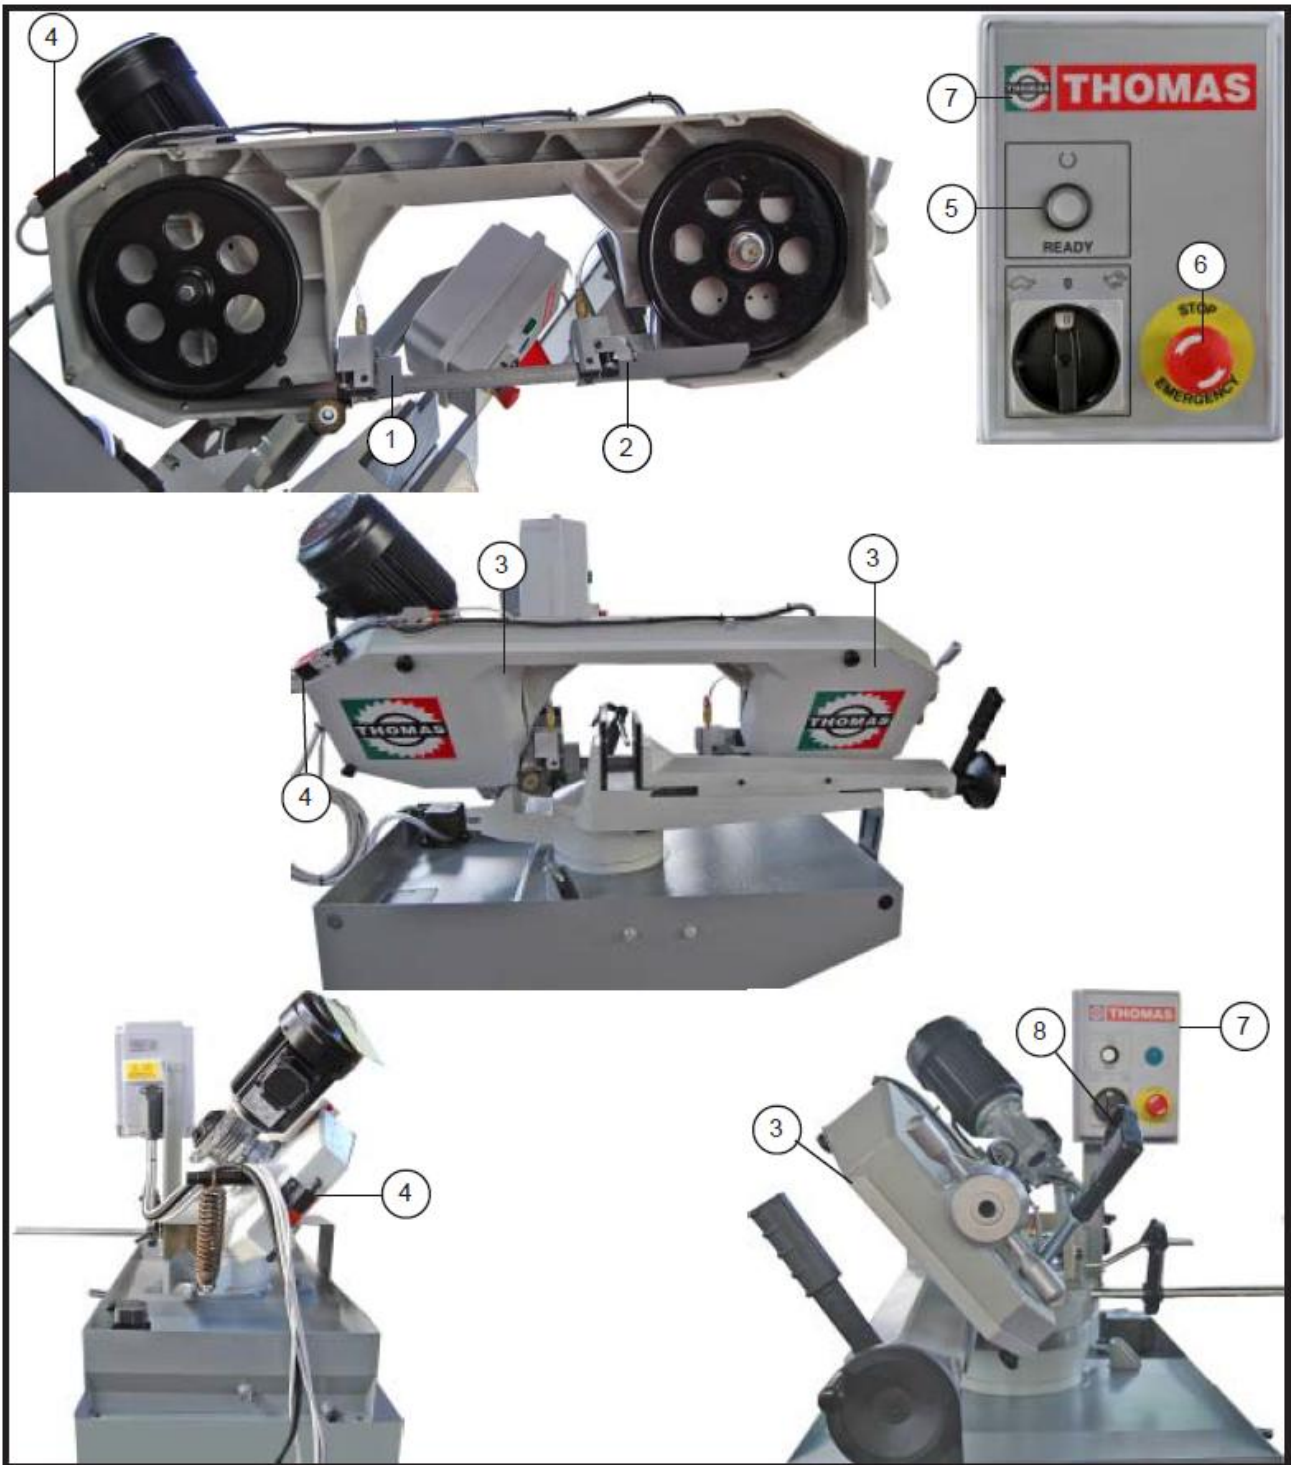

Fig. 1-7
- a) N. 1 Stationary Guard (1 fig. 1-7) on the fixed blade-guide block. The guard avoids the contact with the blade as it enters the blade-guide; also, it prevents access to the area in which the brush is located. The guard is made of steel plate press-bended and welded and it is mounted with screws to the blade-guide block. The resistance of the guard is suitable to the vibrations generated the normal use of the machine and maintenance works.
- c) N. 1 Interlocked Mobile Guard (3 fig. 1-7) sawframe cover. The guard prevents the access to the blade and both flywheels. The Cover is electrically connected to a interlock switch (4 fig. 1-7), which stops the machine if the cover is open. The closure of the cover does not start the machine automatically, but it is necessary to press the button <READY> (5 fig. 1-7) on the control panel. The cover is made of steel plate which is assembled to the sawframe by means of two hinges; the closure is provided by screw plastic knobs. N. 1 Emergency Push-Button in red on yellow label <EMERGENCY> (6 fig. 1-7), located on the control panel. When pressed, the button stops the machine instantaneously as it cuts off the electric supply to all motors. To start again, you need to release the push-button <EMERGENCY> and press the button <READY> (5 fig. 1-7).
- e) The Electric Box (7 fig. 1-7) of the machine is IP 54 protected and contains all the power electric components having dangerous voltage. The cover is closed by screws.
- h) In case of chute of electric supply, you need to press the button <READY> (5 fig. 1-7) to get the voltage to the machine when the electric supply is available.